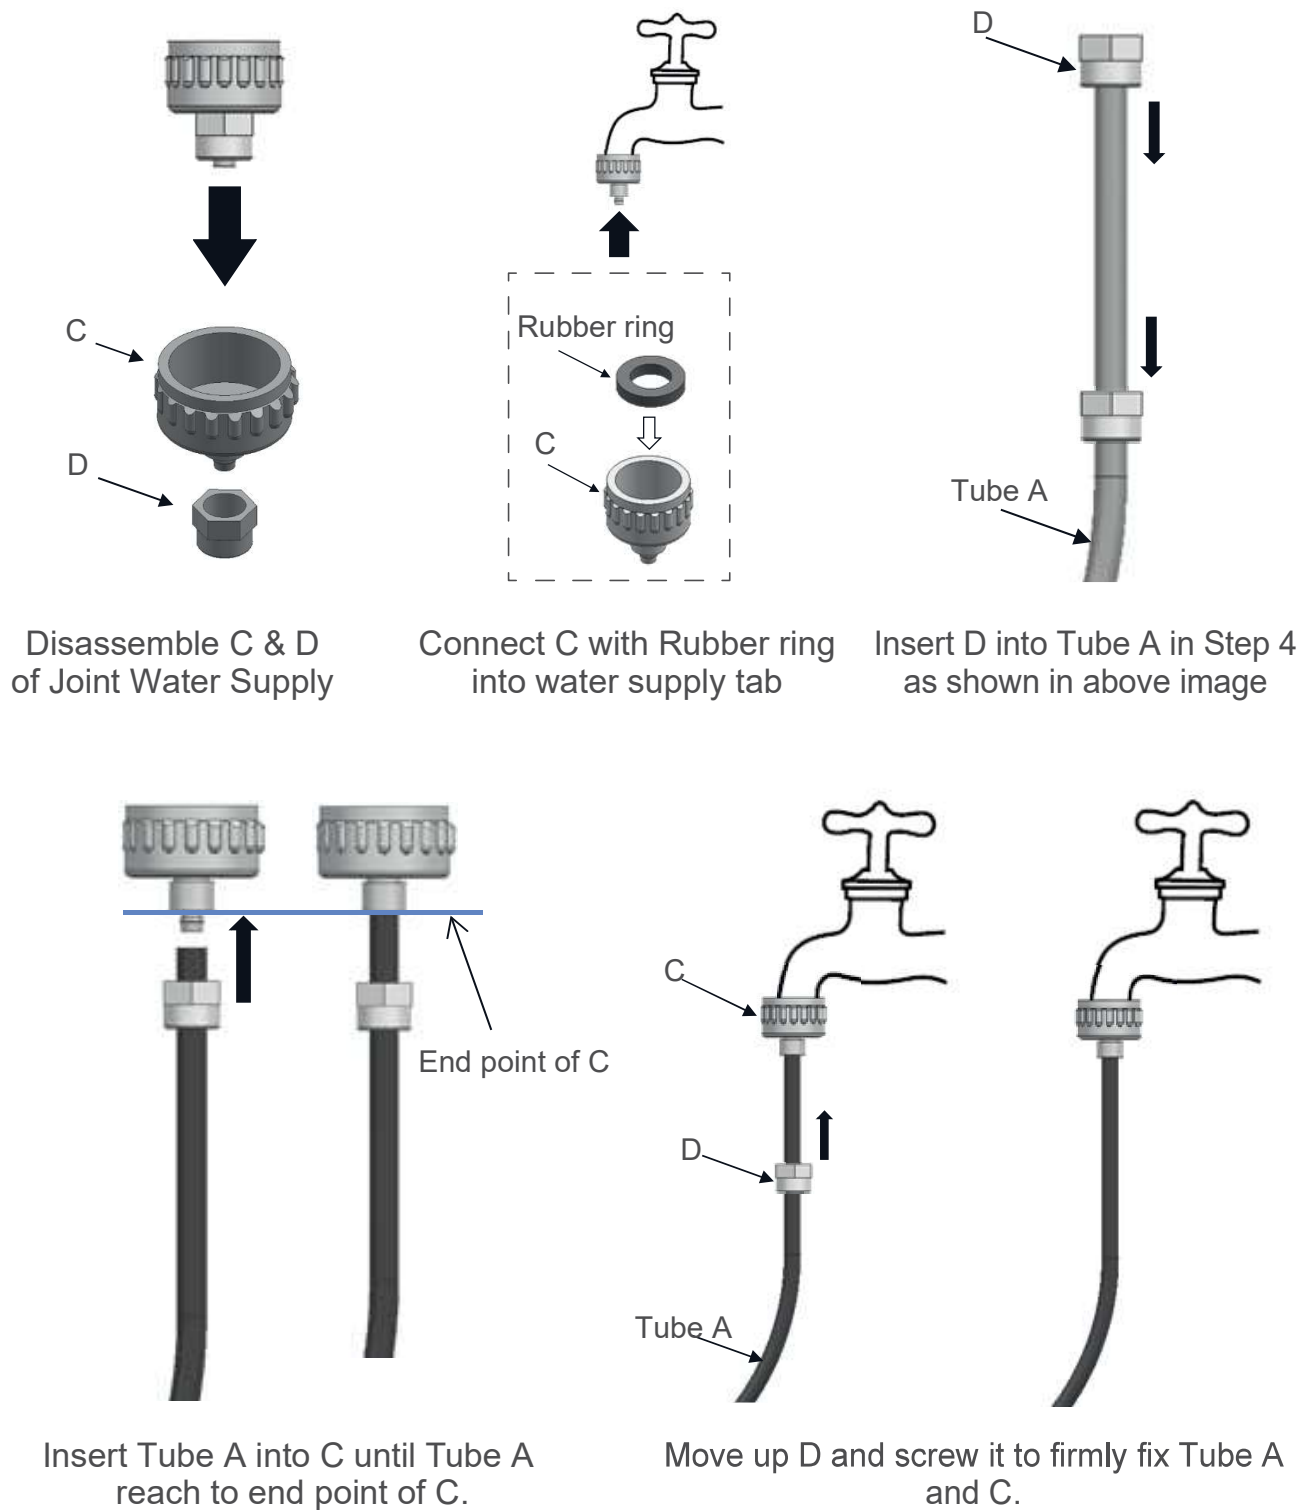

Figure 3: Connect Joint Water Supply to water supply tab
Step 5: Connect Joint Water Supply to water supply tab as instructed in Figure 3.